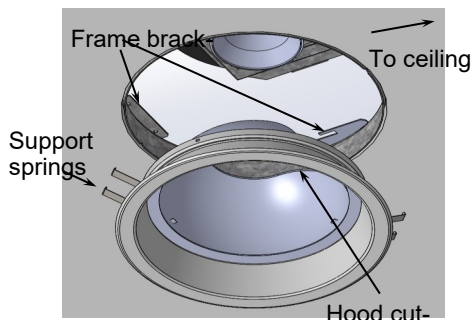

Figure 4
1. To install *hooded lower trim assembly*, align cutout of hood towards ceiling peak. Squeeze the two support springs inwards, while inserting in between frame brackets. Slide trim up and fully seat against ceiling surface. (Figure 4). Cut out of hood should align with adjusting rails